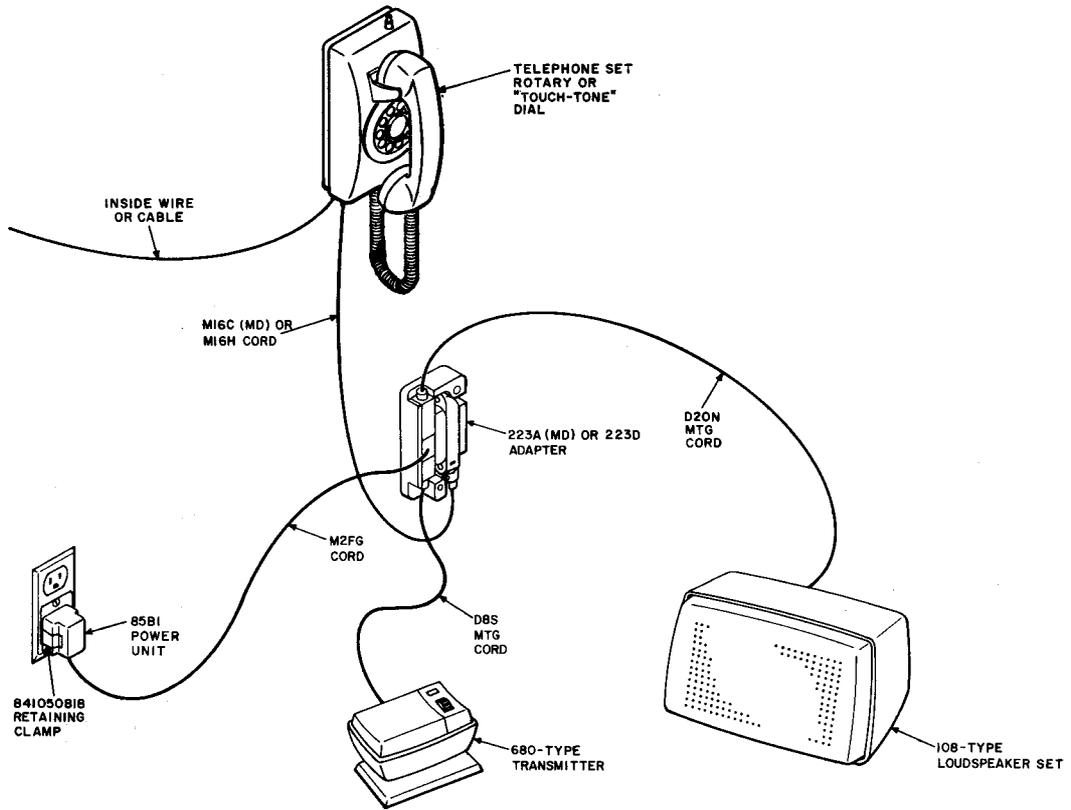
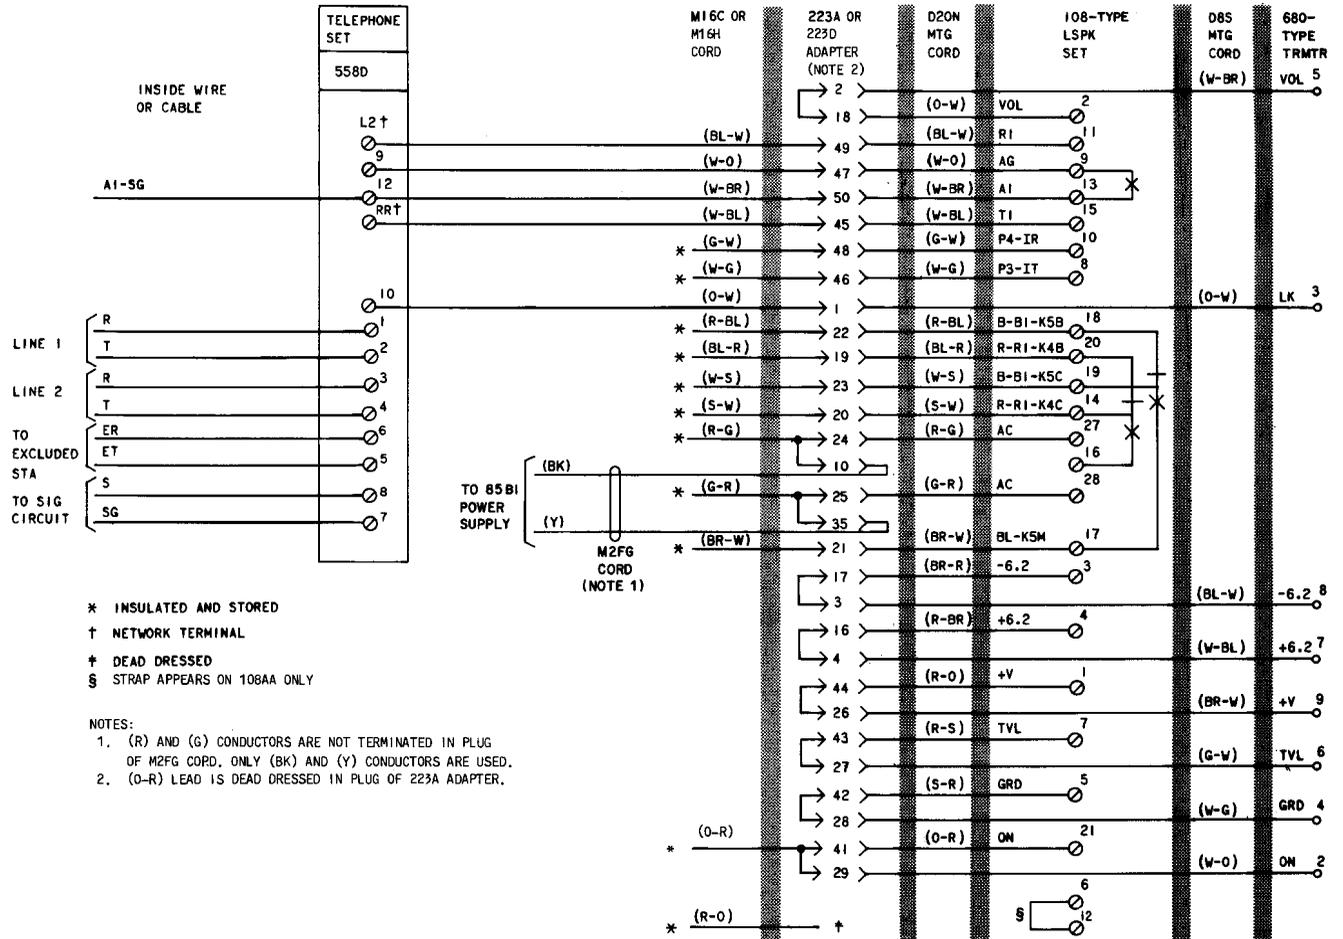

Fig. 1—Typical Grandfathered 4A Speakerphone System Arrangement, 558D, 558F, and 2558D Telephone Sets Using 223A (MD) or 223D Adapter
Fig. 3—Typical Grandfathered 4A Speakerphone System Arrangement, Connections to 558D Telephone Set
1.03 To provide 4A speakerphone feature at the 558- and 2558-type telephone sets, refer to Fig. 1 or 2 for layout arrangement of the components required for the system and Fig. 3, 4, 5, 6, or 7 for individual lead connections.
2.04 Power shall be supplied by connecting 85B1 power unit as shown in Fig. 1 or 2.